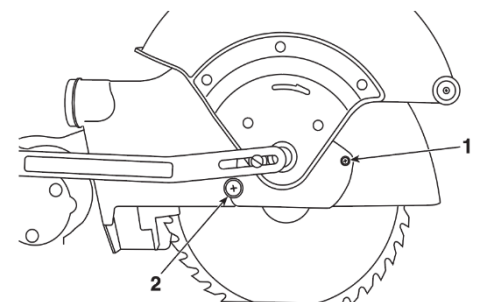

Fig.4
2. Loosen, but do not remove, the rear guard plate screw 2 (Figure 4)
3. Lift up the lower guard and loosen, but do not remove, the guard plate front screw 1 (Figure 4)
9. Align the guard plate with the guard plate screw hole and tighten the guard plate front screw 1 (Figure 4)
10. Rotate the lower guard down to tighten the guard plate rear screw 2 (Figure 4)